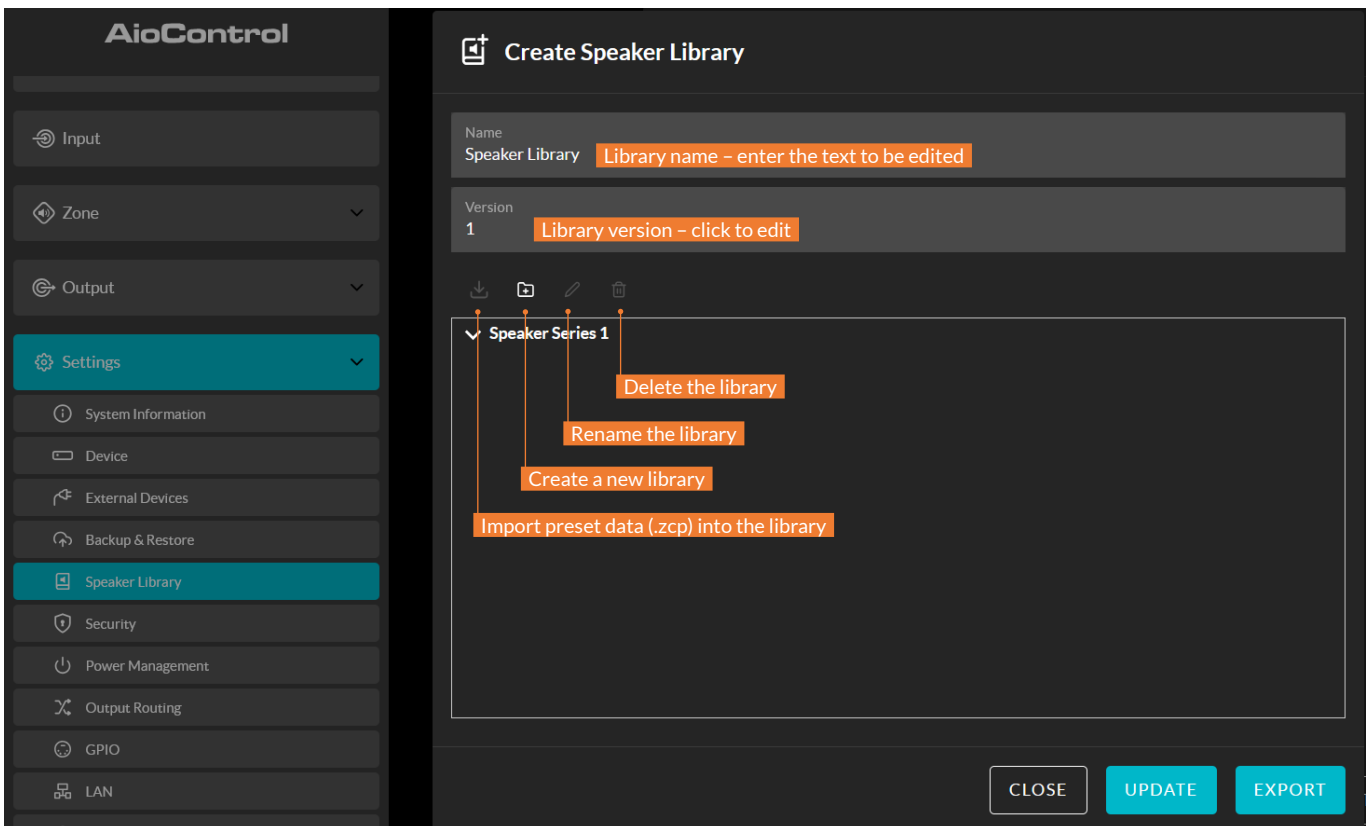

Figure 6N: Creating and managing the speaker library
- The **'Speaker Library'** menu allows you to manage libraries of speaker presets. You can create or import existing libraries of speaker preset files (.zcl), as well as edit or completely delete existing libraries. Figure 6N illustrates the creation and management of speaker preset libraries.